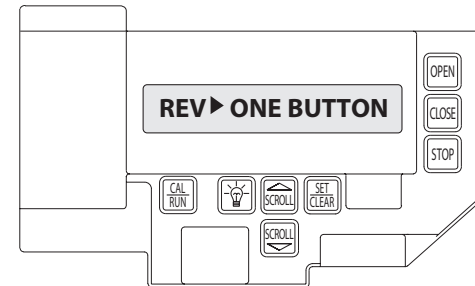

Figure 2
- 2) Press SCROLL  until display reads "GDO V# > #####." **Figure 2**. This display will cycle between the version number of the current GDO firmware and the current Display Firmware.